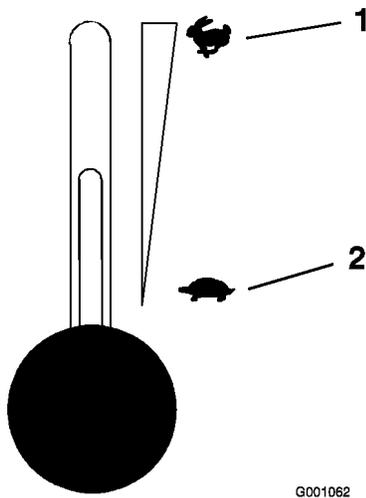

Figure 13
5. Move the throttle lever to the middle position (Figure 13).
2. Move the throttle lever midway between the slow and fast positions (Figure 13).